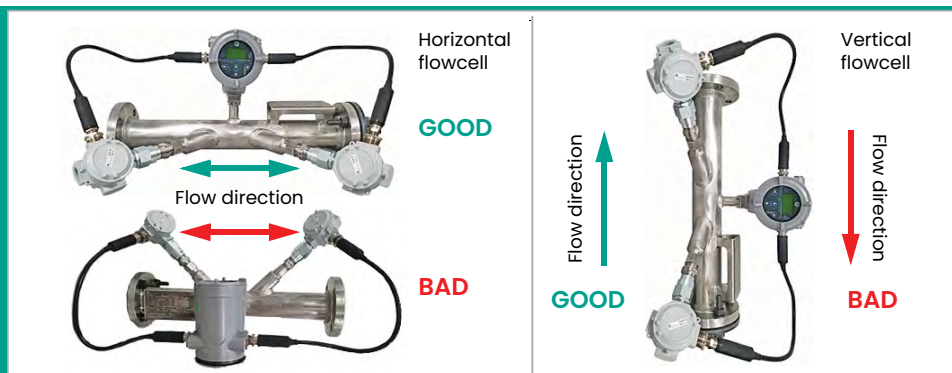

Figure 5: Good and bad flowcell/transducer orientations
- Locate the transducers on a common axial plane along the pipe. Also, locate them on the side of the pipe instead of on the top or the bottom, because the top of the pipe tends to accumulate gas and the bottom tends to accumulate sediment. Either condition will cause unwanted attenuation of the ultrasonic signals. There is no similar restriction with vertical pipes, as long as the fluid flow is upward to prevent free falling of the fluid or a less than full pipe (see *figure 5*).